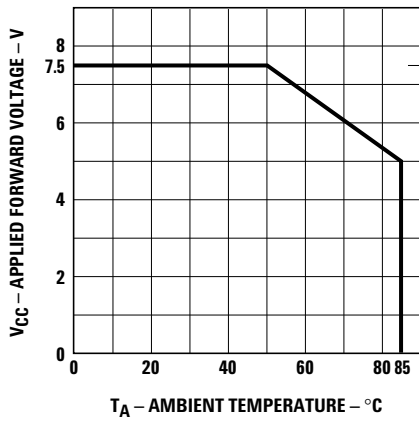

Figure 3. Maximum allowed applied forward voltage vs. ambient temperature $R_{\theta JA} = 175^{\circ}\text{C}/\text{W}$. 5 volt devices.
- Derate from T_A = 50°C at 0.071 V/°C, see Figure 3.